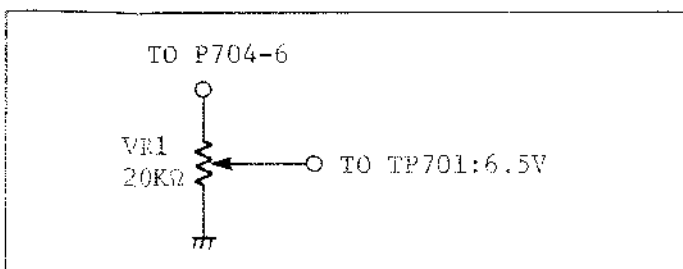

Fig. 45
4. Connect the JIG to Both points TP701 and P704-6 as shown in Fig. 45.
10. Connect the JIG to both points P704-6 and TP701 as shown in Fig. 45.
1. Set the BAND SW to the VHF high position (VH) and turn the tuning volume so that the voltage at BT terminal of the tuner becomes 15V.
6. Connect the JIG to both points TP701 and P704-6 as shown in Fig. 45 and adjust the VRI so that the level of it becomes 1.0 Vp-p.